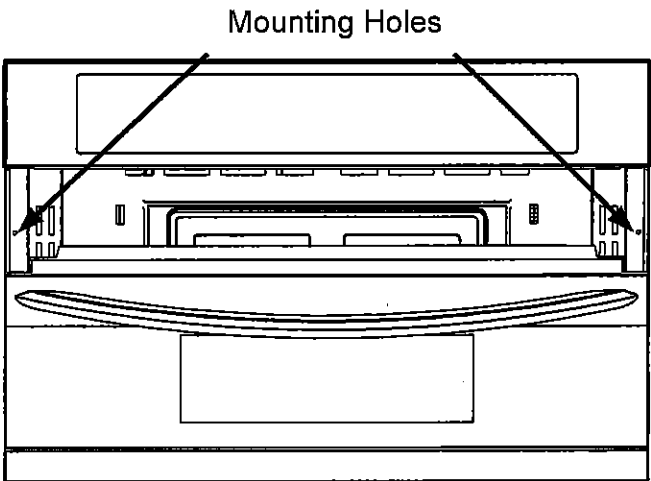

Figure 5: Mounting Screw Holes
- 1. The mounting holes in the side trims may be used as a template to locate the appliance mounting screw holes (see figure 5).